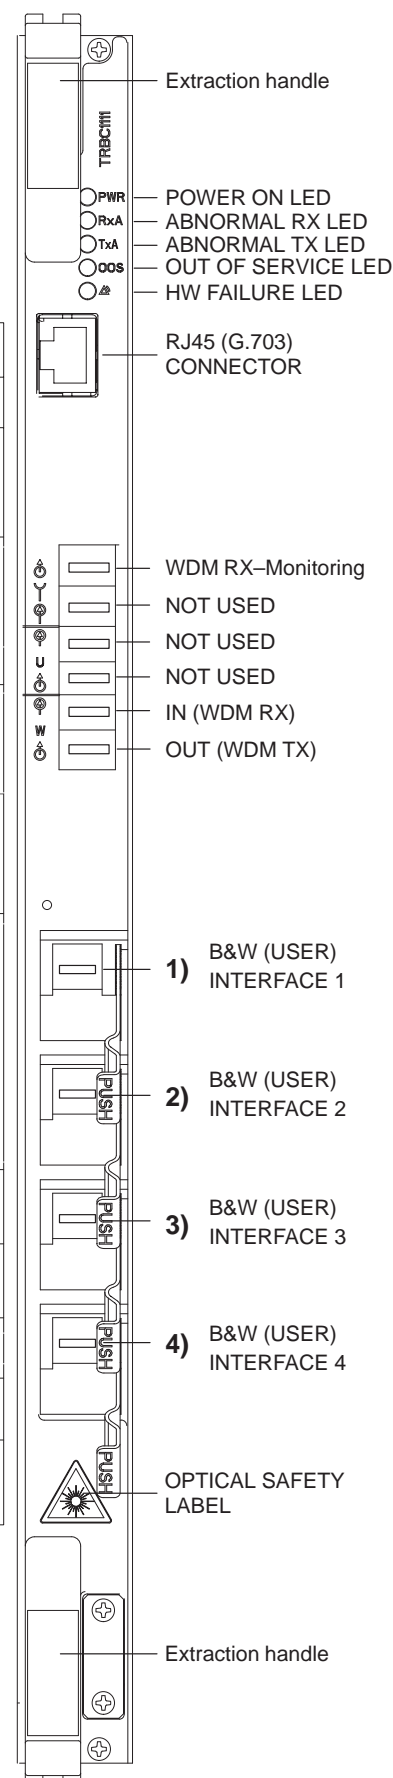

Figure 53. TRBC1111 board Front panel
- TRBC1111 boards, on WDM coloured interfaces, see Figure 53. on page 107
- TRBC1111 boards, on Back & White interfaces, see Figure 53. on page 107